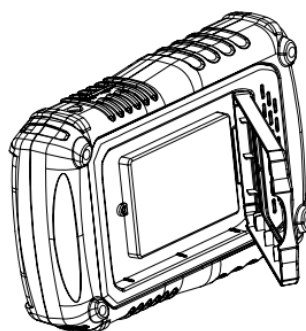

Figure 2
2. Draw back the packing block of the Handheld Digital Oscilloscope, and then dismantle the battery cap, as figure 2 shows.